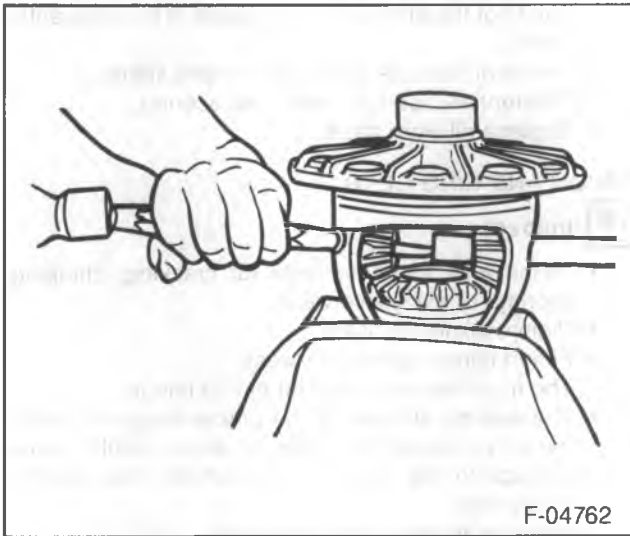
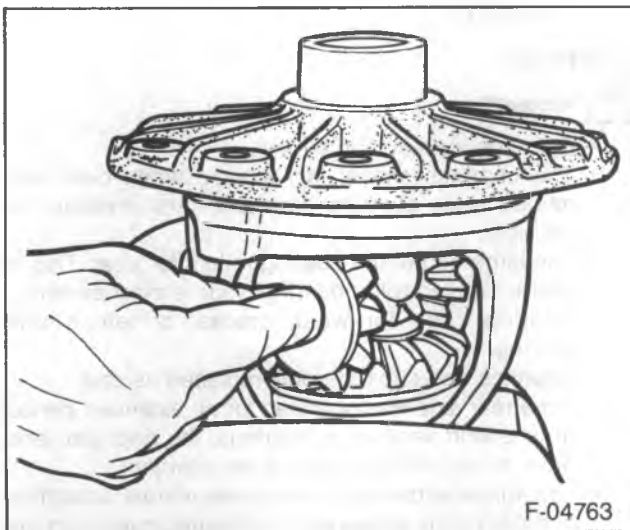

Figure 9—Removing the Pinion Shaft
Figure 10—Removing the Pinion Gears
- 13. Pinion shaft (28) using a hammer and a brass drift (figure 9).
- 14. Differential pinion gears (24) and thrust washers (26).
- Rotate the side gears until the pinion gears are in the opening of the differential (figure 10).
- 15. Differential side gears (25) and thrust washers (27).
- Replace the carrier cover (14) using two bolts (17) to keep the pinion from falling to the floor.